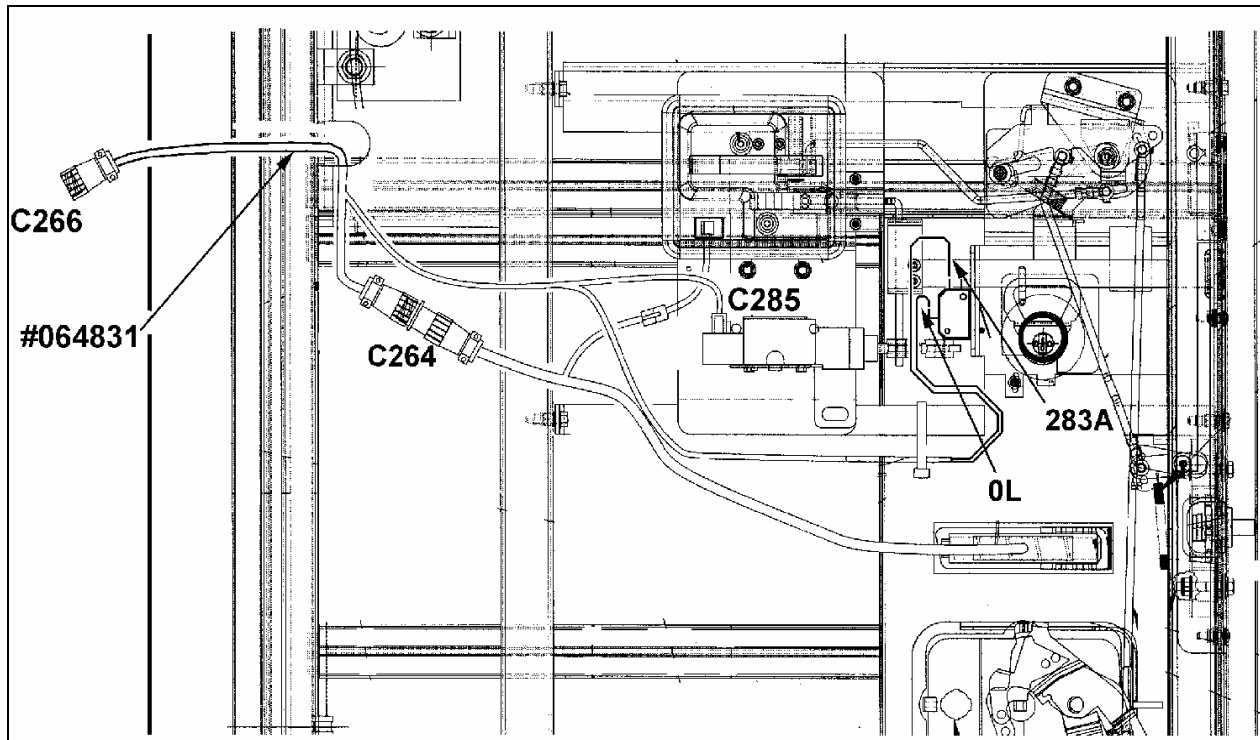

FIGURE 3: HARNESS #064831 AND INTERNAL DOOR COMPONENTS
2. Unplug connectors C264, C266, C285, wires 0L & 283A and then remove existing door harness (figure 3).
4. Plug connector C264. Plug connector C285 to locking system actuator (see figure 3).